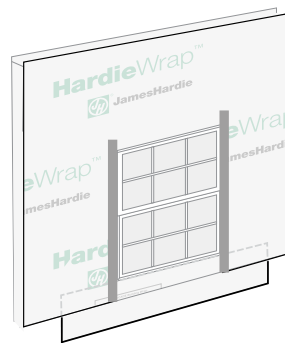

figure 13
- Tape vertical seams as shown using HardieWrap seam tape (fig.13).